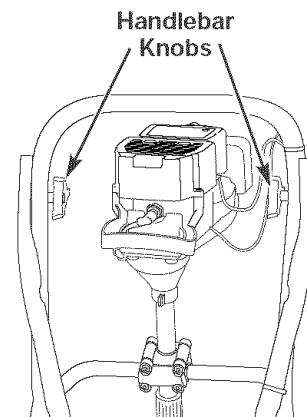

Fig. 20
3. Fold the handlebars down as shown (Fig. 20). Tighten the knobs.